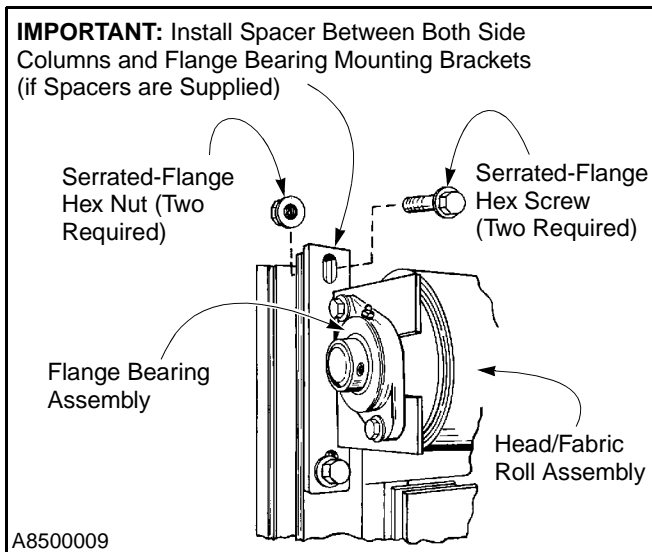

Figure 21
5. Align the slotted holes in both flange bearing assemblies with their associated holes in each side column. (If pullouts were used, slide the flange bearing mounting brackets over the 6-in. screws installed earlier.) (See Figure 21.)
IMPORTANT: If your door is oversized, two large spacers were included in the small parts carton. Failure to install these spacers between their associated flange bearing mounting bracket and side column could result in damage to the door. (See Figure 21.)